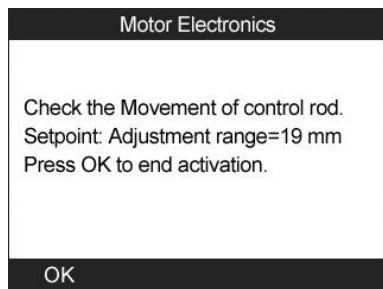

Figure 14.37
- b) Select **OK** to activate swirl flaps and the tool displays as below. (Figure 14.37) Press **OK** button to end the activation and exit.